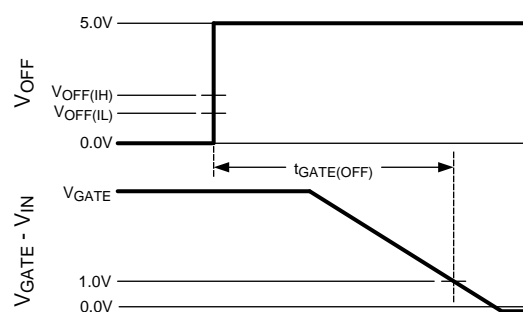

Figure 5. Gate Off Timing for OFF pin Low to High Transition
(3) Time from V_{OFF} voltage transition from 0.0V to 5.0V until GATE pin voltage falls to $V_{IN} + 1\text{V}$. See Figure 5.